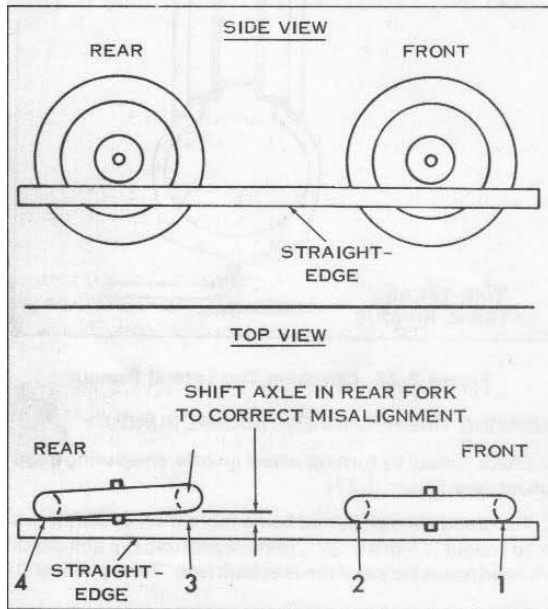

Figure 2-28. Wheel Alignment Diagram
Front and rear wheels should be in perfect alignment. This can be checked on the motorcycle with a straight wooden board or length of string by placing against rear tire sidewall as far up toward axles as possible. Straightedge should be parallel to tires (see Figure 2-28). On 1970 and later FL models, 5.10 x 16 size front tire should be offset 3/16 in. to right of rear tire. Adjust rear wheel in axle clips as necessary to correct misalignment.
2. Insert a large screwdriver through hole in end of grip (Figure 2-28) and loosen handlebar end screw (1). Handlebar end screw and spring (2) will remain inside grip. Remove grip sleeve assembly (3), exposing working parts.